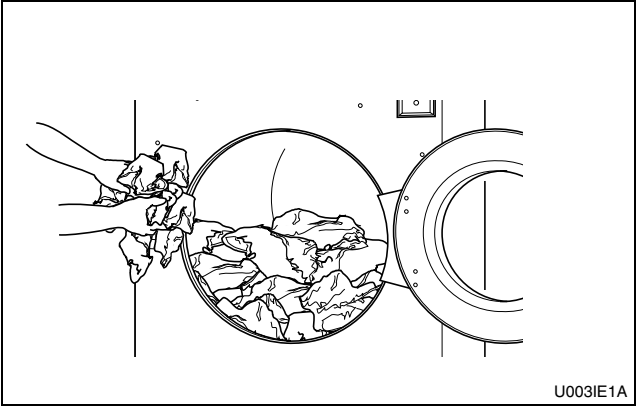

Figure 26
- 3. Load to capacity whenever possible. DO NOT OVERLOAD. Refer to *Figure 26*.